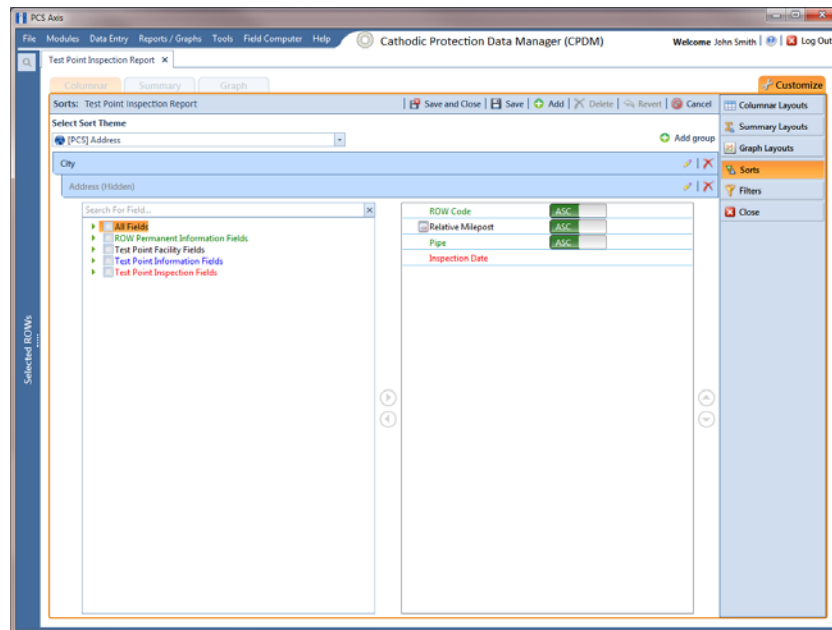

Figure 15-36. Sorts
- 3 Click the **Customize** tab  then the **Sorts** button  to open the *Sorts* page (Figure 15-36).